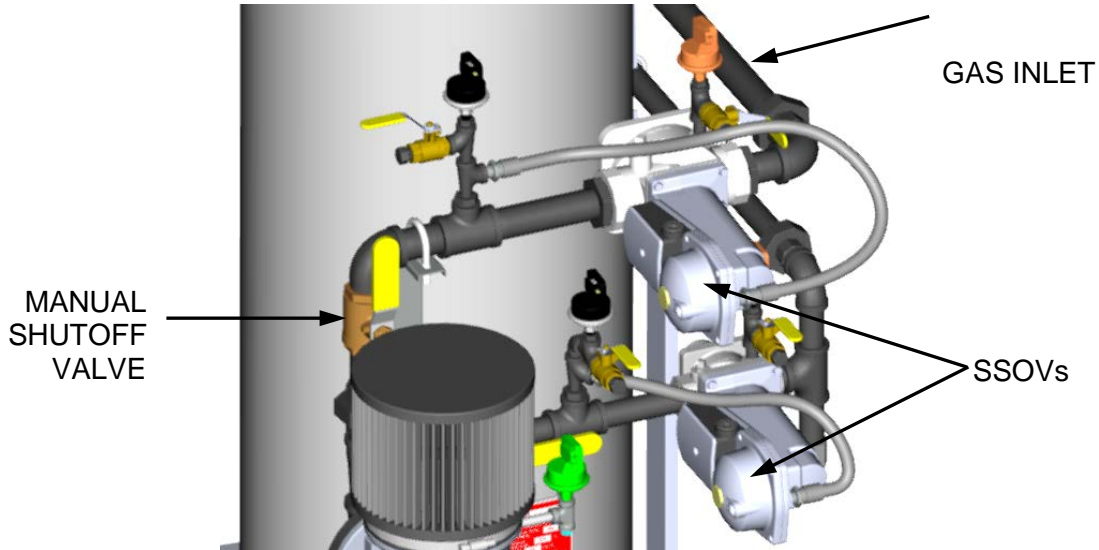

Figure 3-3. SSOV Location (INN1035 DF Gas Train shown)
2. The unit checks to ensure that the Proof of Closure (POC) switch in the downstream Safety Shut-Off Valve (SSOV) is closed. See Figure 3-3 for SSOV location.